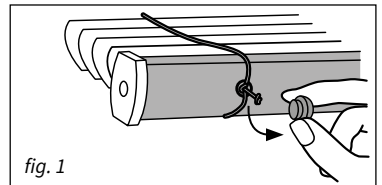

fig. 1
**6.3** Lay blind on a flat surface and remove the caps on the bottom weight bar. The caps cover the lift cords [fig. 1].